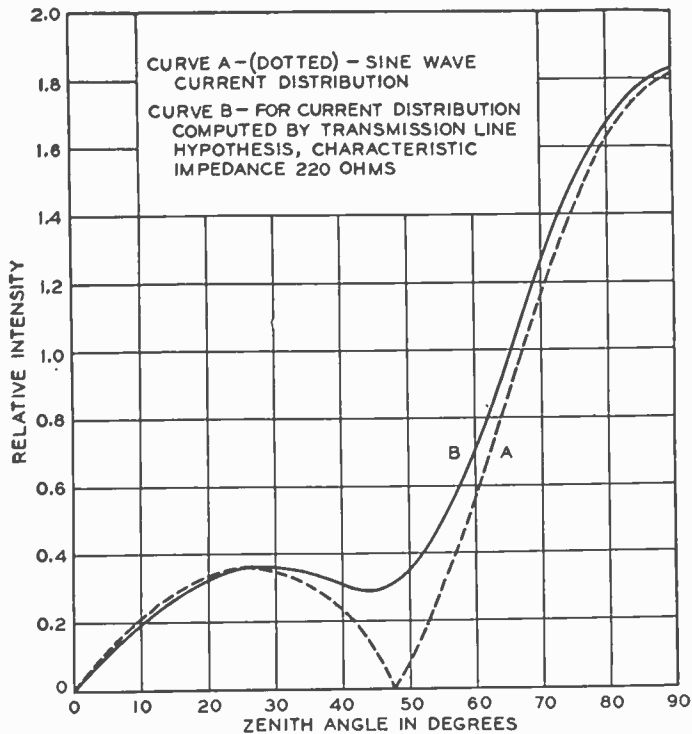

Fig. 7—Radiator diagrams of a vertical uniform cross-section antenna 0.6 wavelengths in height, perfect earth assumed.
Figure 7 is a polar diagram for 0.6 wavelength uniform cross section mast computed by (19). It is of interest to note that the diagram departs materially from that given by the simple sine wave assumption in the region of the expected high angle null.